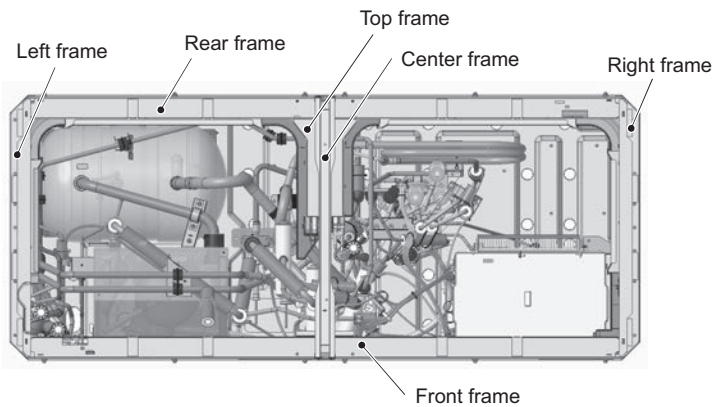

Figure 18
Removing the high-efficiency rear heat exchanger (Figure 18)
- (17) To remove the front heat exchanger, first remove the front, left, right, and center frames by unscrewing the 16 screws. (See Figure 18.)
To remove the right and left rear heat exchangers, remove the top and the rear frames in addition to the front, left, right, and center frames by unscrewing the 21 screws. (See Figure 18.)
To remove the left rear heat exchanger, unscrew the following screws: The screws on the left side of the left pillar in the front, and the screws on the center pillar in the back. (12 screws, Figures 18 and 19)